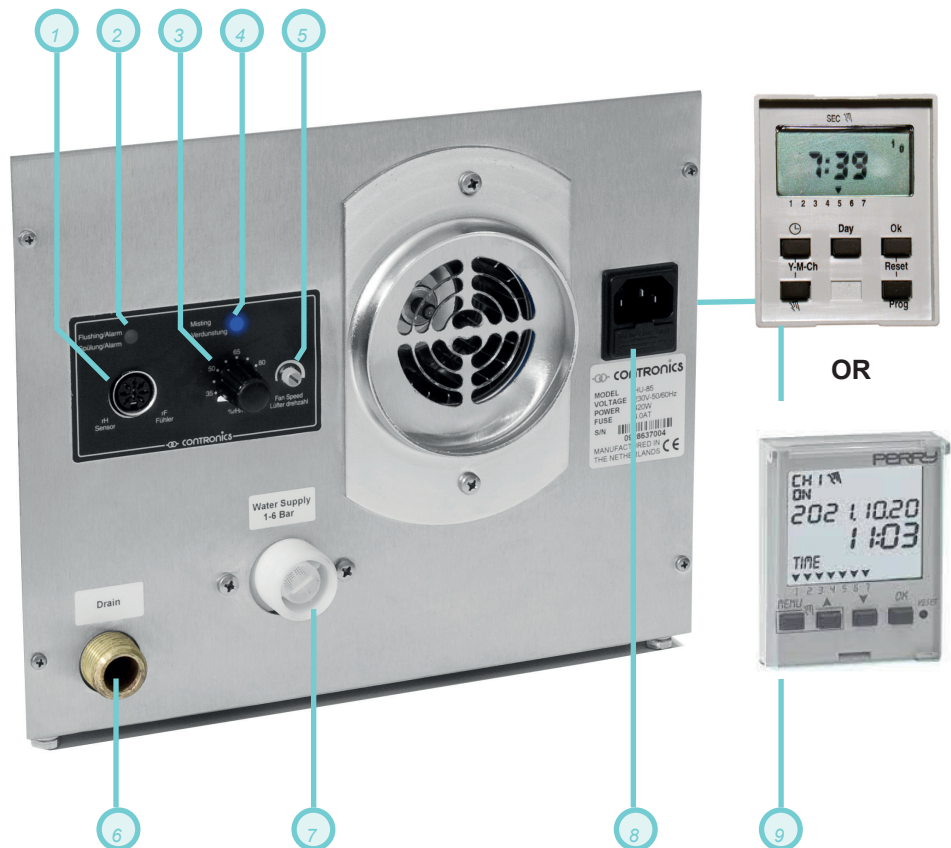

Figure 1 Connections and functions
The humidifier can also be switched on and off using the same signal and HK-01 cable. If there is a short-circuit between the two cables, the humidifier will switch to stand-by mode and will not continue to humidify. If the contact is opened, the humidifier will immediately start operating again at the capacity set on the dial (Figure 1, Setting 3).
- Control if necessary the airspeed with setting 5 (figure 1).